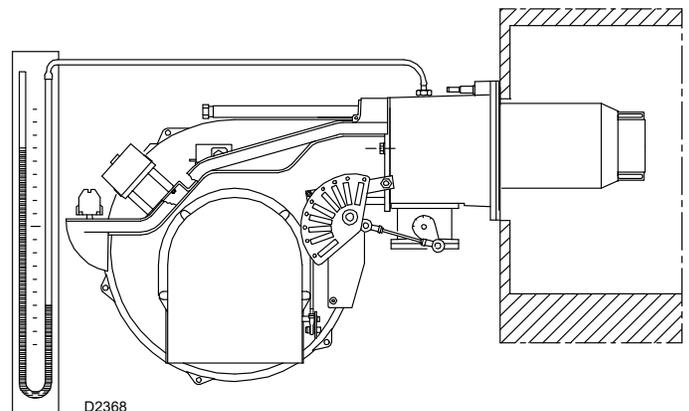

Fig. 36
- Purge the air from the gas line. Fit a U-type manometer (Fig. 36) to the gas pressure test point on the sleeve. The manometer readings are used to calculate the MAX. burner power using the diagram on page 23.